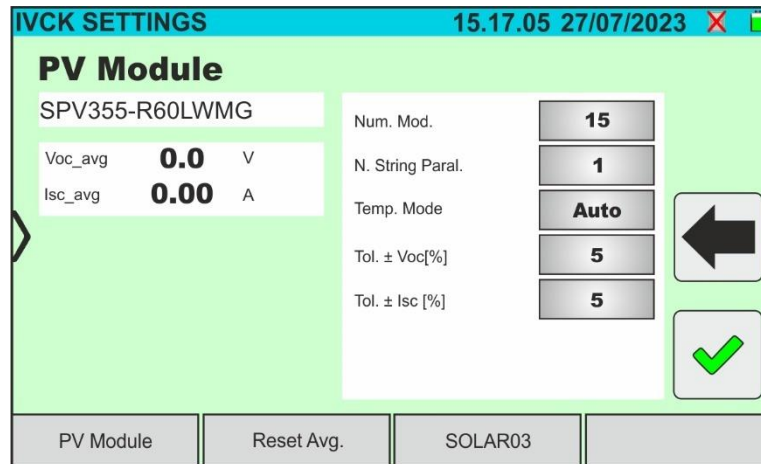

Fig. 59: IVCK test parameter settings
9. Tap on the **"Settings"** key (Monofacial module reference). The following screen is shown in Fig. 59. The following parameters are given: